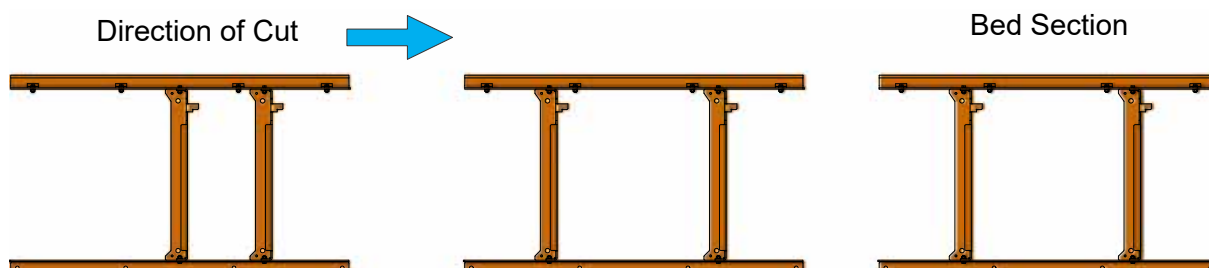

FIG. 2-4
2. Position all three assembled bed sections end-to-end in the order shown on figure 2-4.
See figure 2-4.